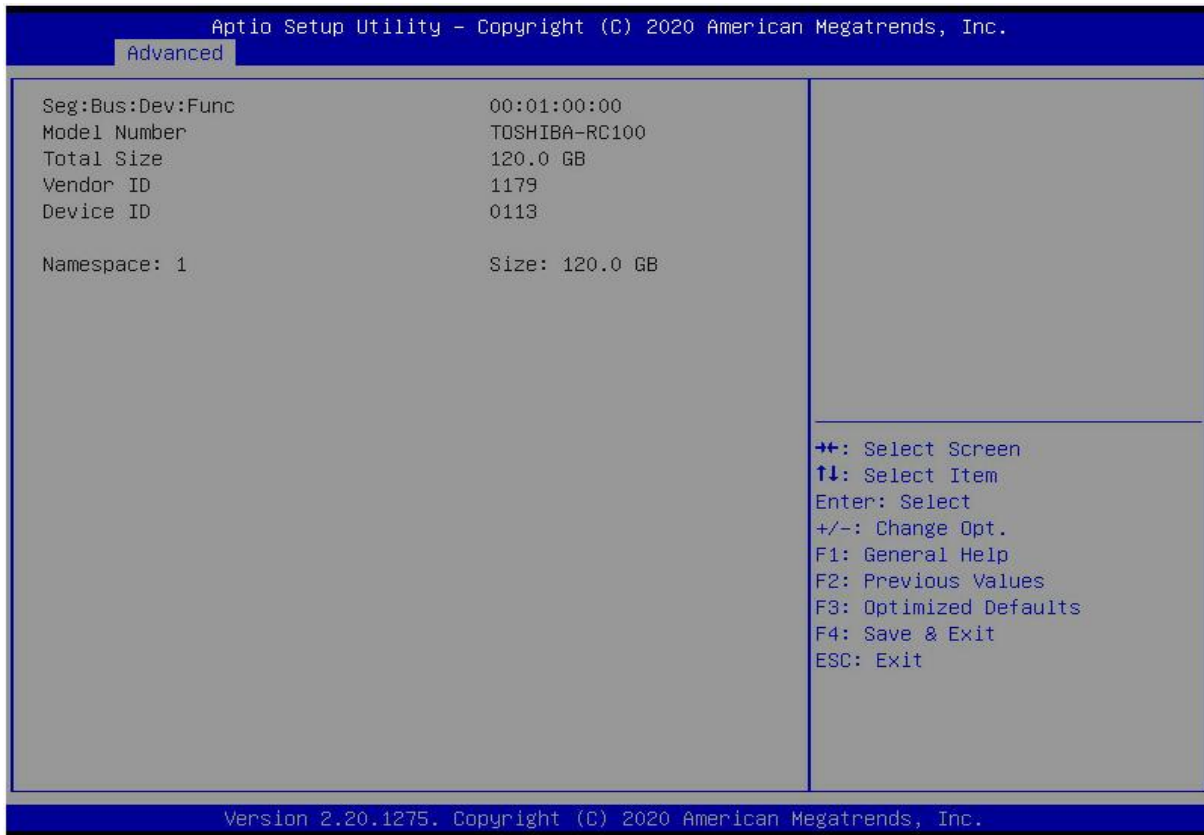

Figure 5- 12
**5.2.12 NVMe Configuration***Figure 5- 11*